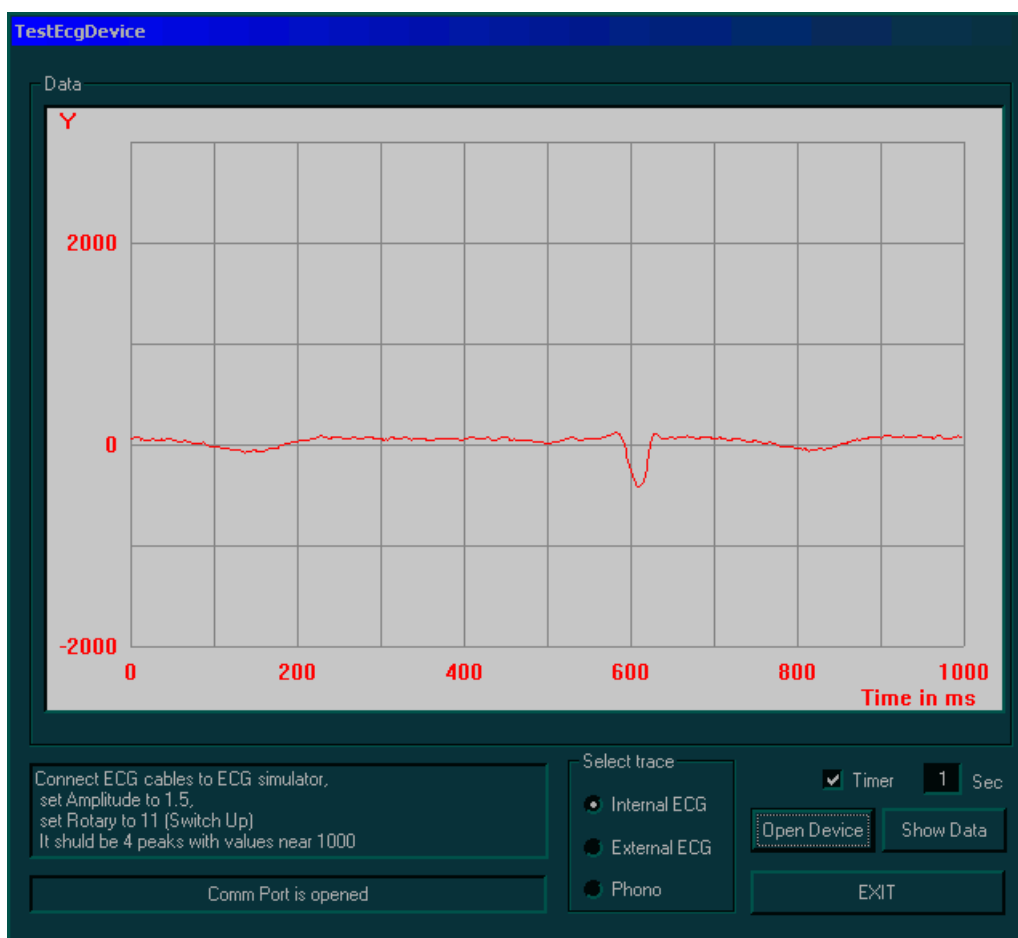

Figure 7-48 Test ECG Device Dialog Box
- 3) Trackball to the **ECG / Phono** button and press **Select**. The *TestECGDevice* dialog box is displayed, as shown in Figure 7-48 "Test ECG Device Dialog Box" on page 7-74.